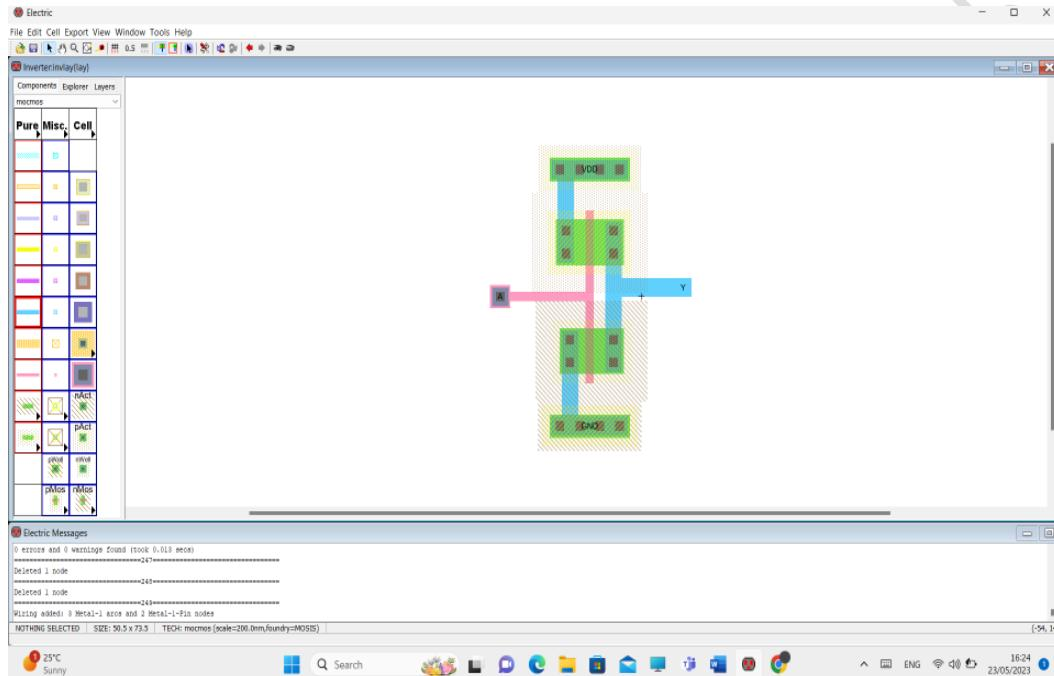

Figure 1.46: Named the input and output.
10. Create export for inputs and outputs: click on the (Input or output) then click on Export>>Create Export >> After that named the input or output >>then click OK. You can see the name shown in the circuit. repeat these steps for all inputs and outputs as shown in Figure 1.46.